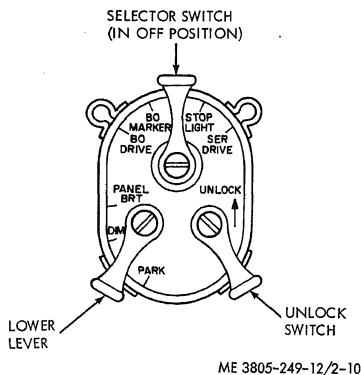

Figure 2-10. Master light switch.
b. Master Light Switch. Refer to figure 2-10.
(1) Place the selector switch in BO DRIVE to operate blackout head and taillights for blackout driving.
(2) Place the selector switch in BO MARKER for parking lights operation in blackout conditions.
(3) Place the selector switch in STOP LIGHT to operate vehicle signal lights and parking lights.
(4) Place the selector switch in SER DRIVE